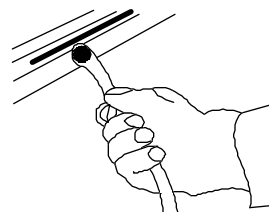

Fig. 1-3
- c. Firmly pull on the end of the yellow shipping strap that is attached to the bottom of the back of the washer. (*Fig. 1-3*) This will release the self-leveling leg mechanism.